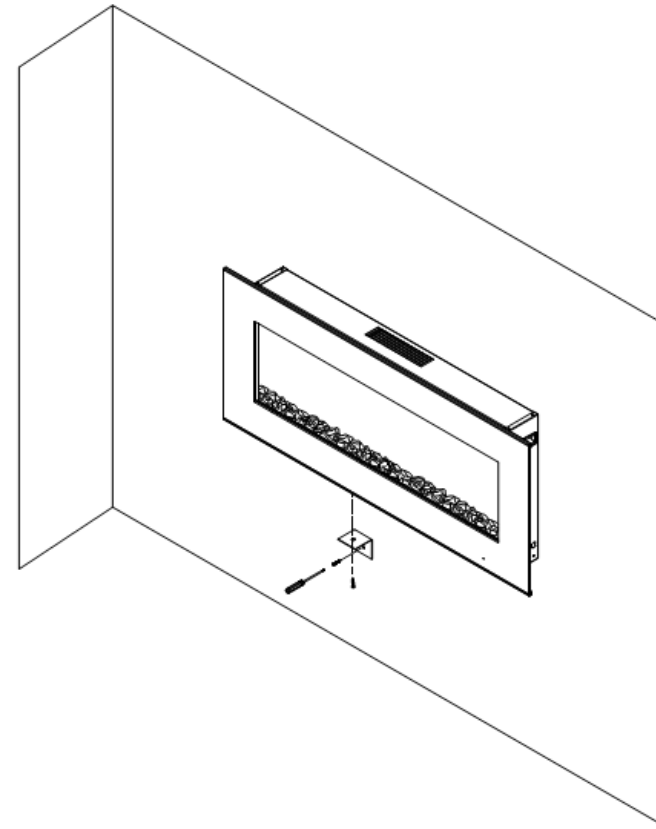

Fig 5
6. Referring to Fig. 5, avoid fireplace to move, use screw fix fireplace to wall ;